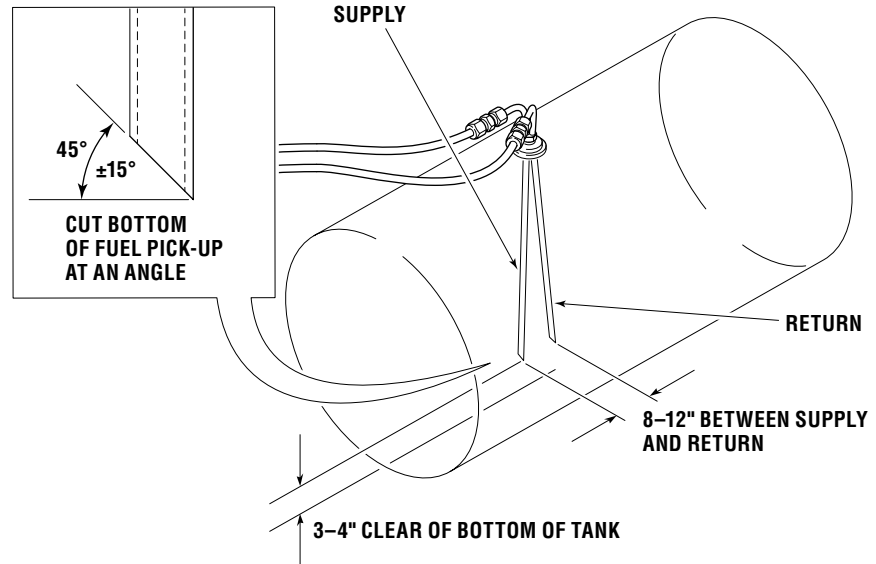

Figure 2-45. Fuel Pick-up Depth
1. Determine the depth of the fuel tank at the desired fuel pick-up location. Cut the fuel pick-up 3 to 4" shorter as shown in figure 2-45.
2. Spread the inlet and outlet tubes 8–12" apart (See figure 2-45) then squeeze them together and install the pick-up into the fuel tank as per selected option.